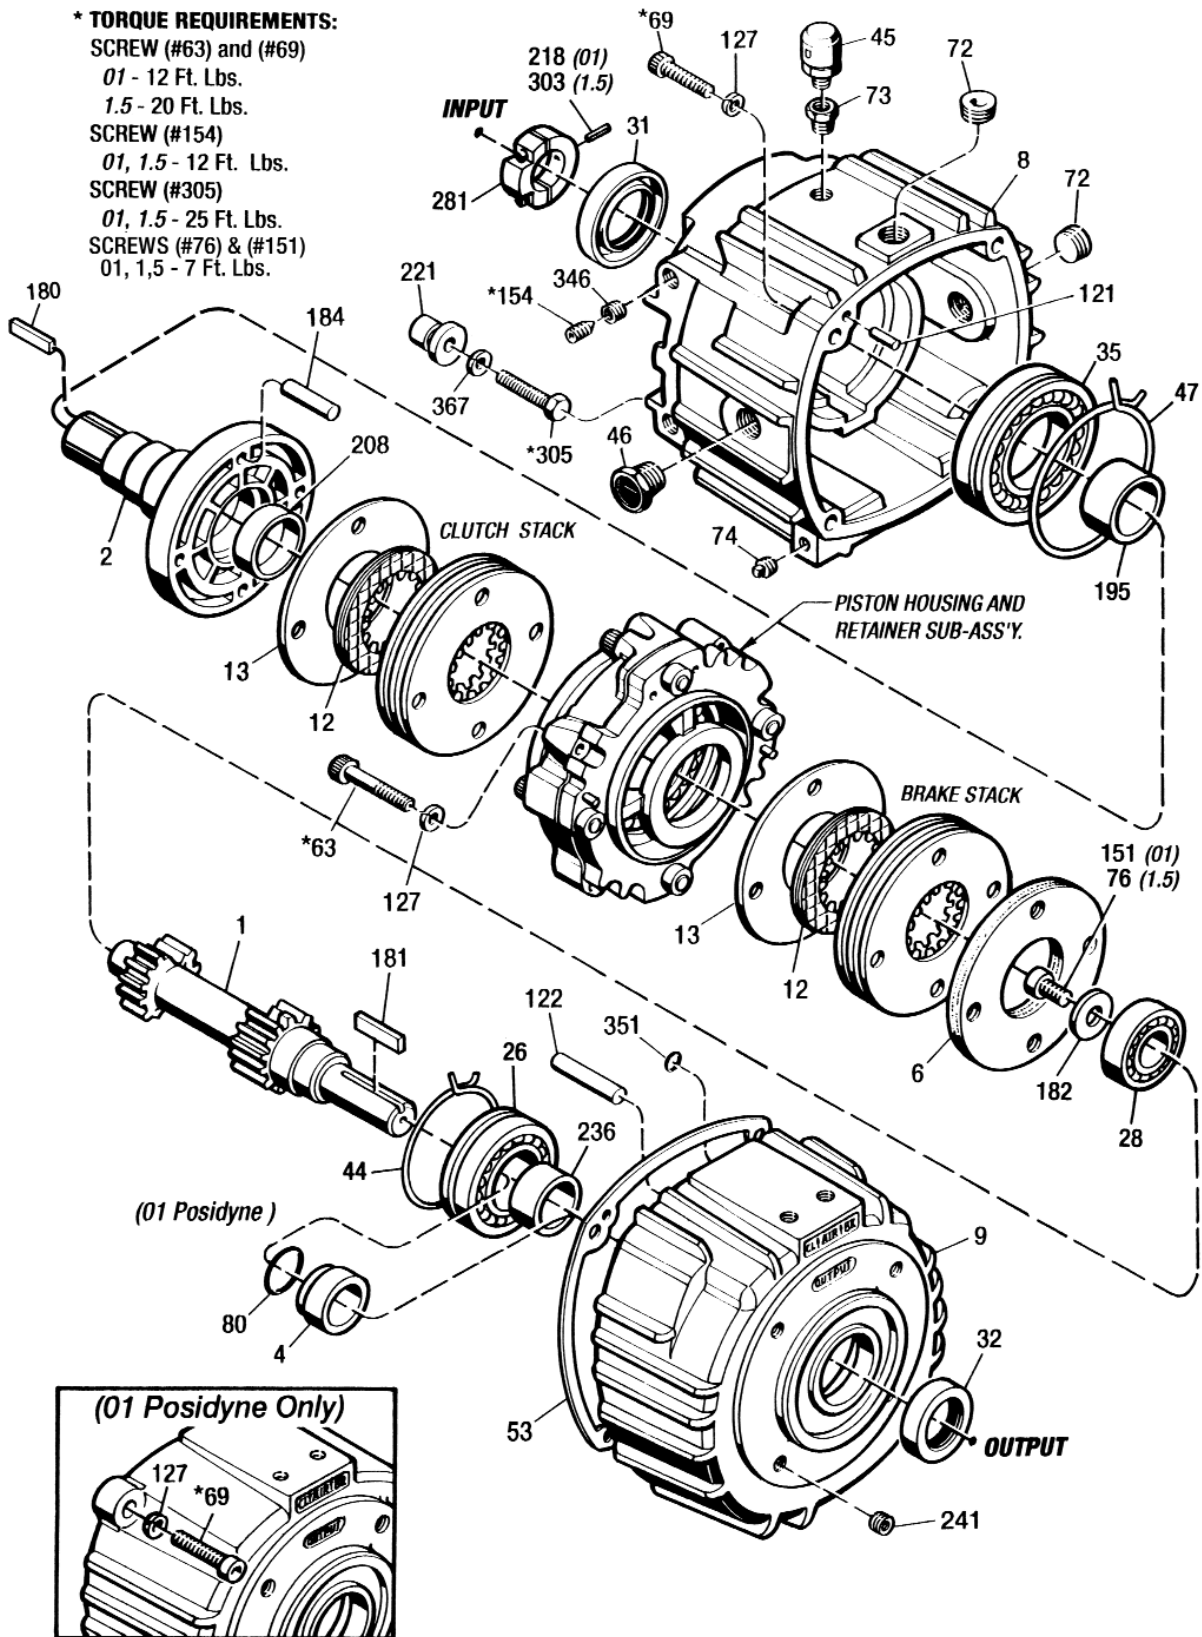

Figure 10.1 - 01 and 1.5 Posidyne Clutch/Brake Unit With Split Quill Input Shaft
- Figure 10.1 - 01 and 1.5 Posidyne Clutch Brake Unit.
(Figure 10.1)